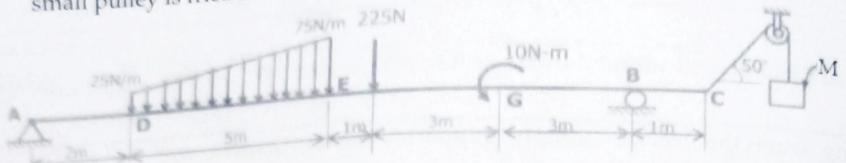

Fig 2.64
- 1) A beam is loaded and supported as shown in the fig 2.64. Find the maximum mass M that can be suspended as shown in the figure without disturbing its equilibrium. The small pulley is frictionless. [Ans.: $M=26.82\text{kg}$]